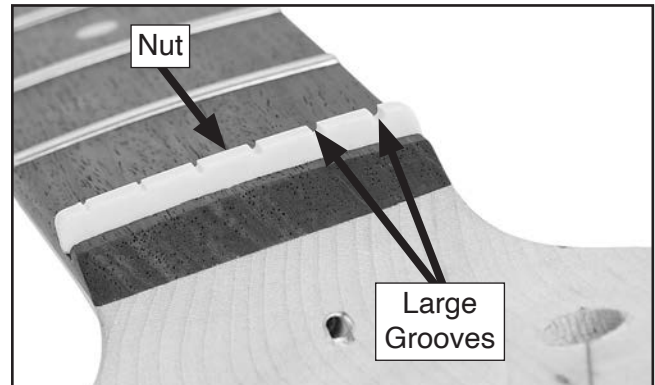

Figure 19. Nut installed.
1. Use a hobby knife or razor blade to scrape any finish out of nut slot (see **Figure 19**). DO NOT remove any wood from nut slot.
2. Test fit nut in slot, ensuring large grooves face toward top of neck, as shown in **Figure 19**.